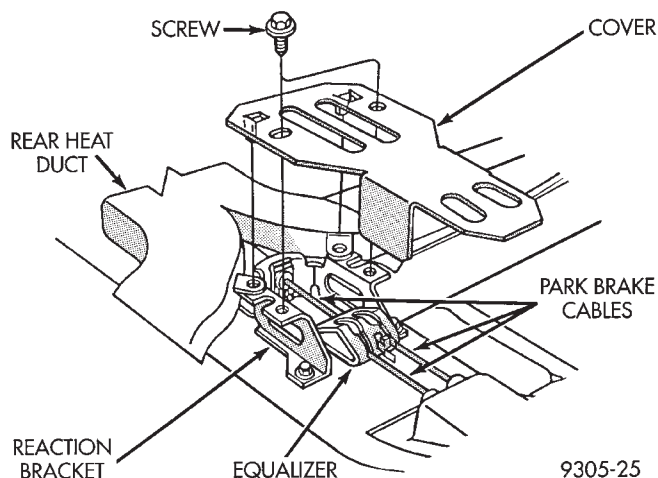

Fig. 123 Park Brake Equalizer Bracket
equalizer cover which is attached to the park brake cable reaction bracket (Fig. 123).
(12) Remove the park brake equalizer cover from the reaction bracket (Fig. 123).
(5) Install equalizer cover back on reaction bracket (Fig. 123). Torque equalizer cover to reaction bracket mounting bolts to 10 N·m (88 in. lbs.).
(6) Fold rear passenger compartment carpeting back into position.